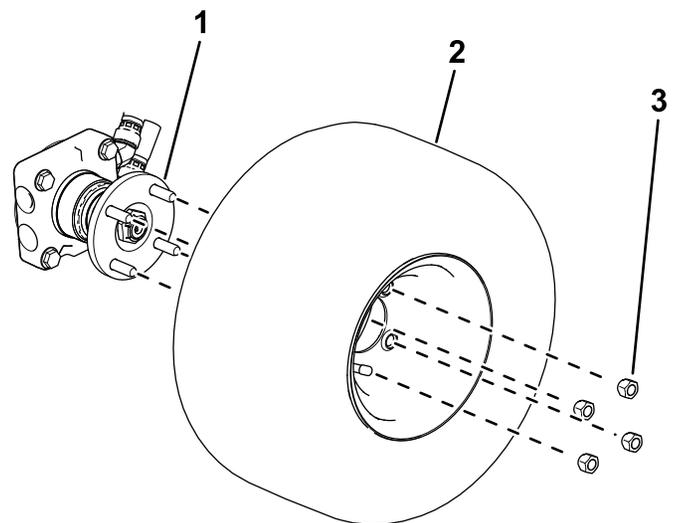

Figure 4
- 4-wheel-drive machines:** Use 4 lug nuts to secure the wheel to the wheel hub (Figure 4).